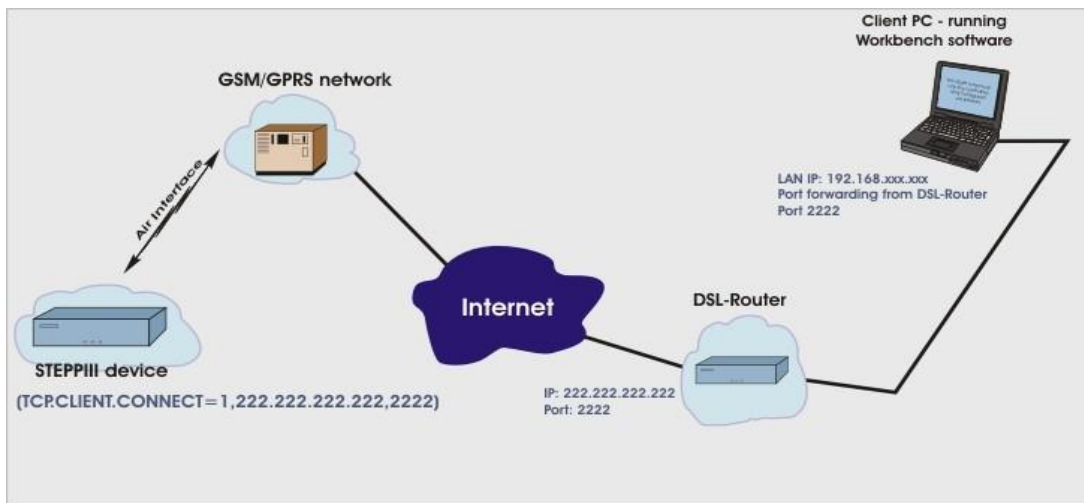

Figure 1: Architecture concept
1. Thereafter, transmit the IP-address of the DSL Router and the Port number of your local PC(see Fig. 1) to the target device (e.g. by SMS) with contents e.g. **“\$PFAL,Cnf.Set,TCP.CLIENT.CONNECT=1,222.222.222.222,2222”**